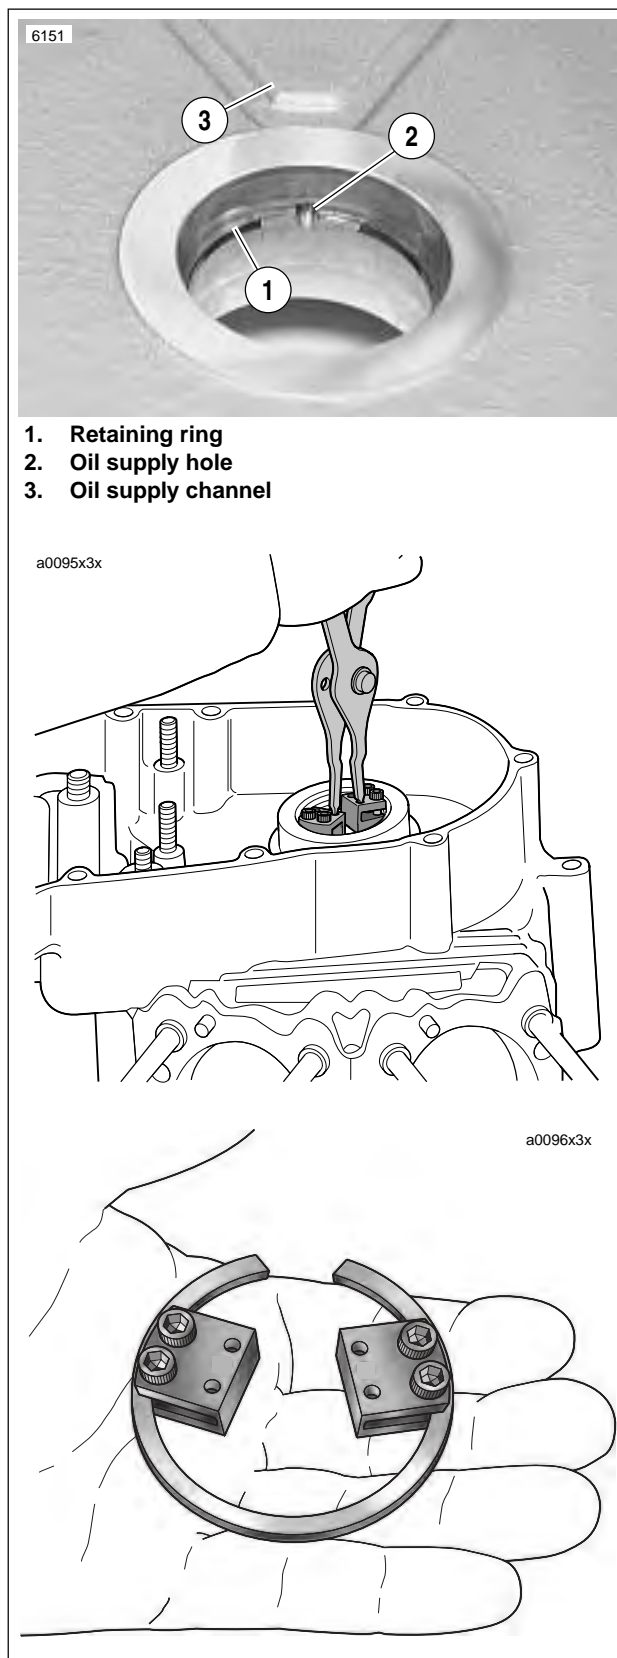

Figure 3-134. Snap Ring Installation Using Retaining Ring Remover/Installer (Part No. HD-44069)
1. See Figure 3-134. Install **new** snap ring to crankcase bore (if bearings were replaced).